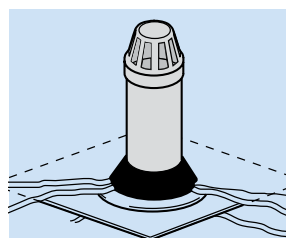

Fig. 61
- Coat the aluminium baseplate with bitumen. CAUTION: Keep hot material away from rubber cone. Place second layer of felt over baseplate up to the cone. Trim accordingly. Repeat for third layer of felt (Fig. 61).